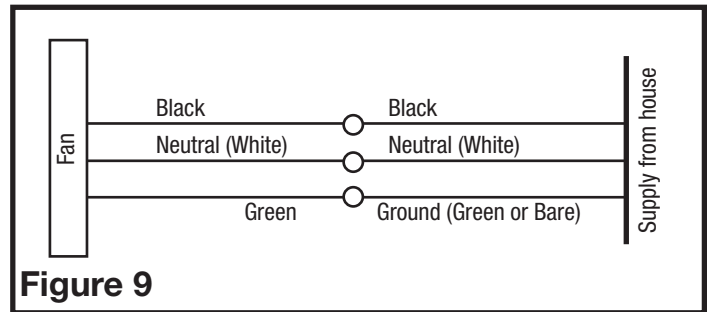

Figure 9
- 2b. From where you have chosen to access the fan's junction box, connect the white wire from the house to the white wire from the fan's receptacle. Connect the black wire from the house to the black wire from the fan's receptacle. Connect the ground wire from the house to the green wire from the fan housing (**Figure 9**). A manual override switch (not included) can be used to provide a manual fan Off function. Use approved methods for all connections.